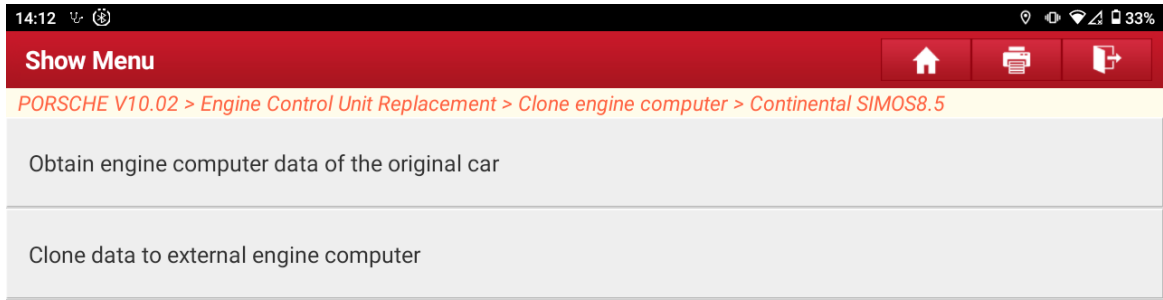

Figure 1
2. Access the Porsche immobilizer software (need to connect the immobilizer programmer G3), and choose [Engine Control Unit Replacement] > [Clone Engine Compute] > [Continental SIMOS8.5]. The current menu is shown in Figure 1.